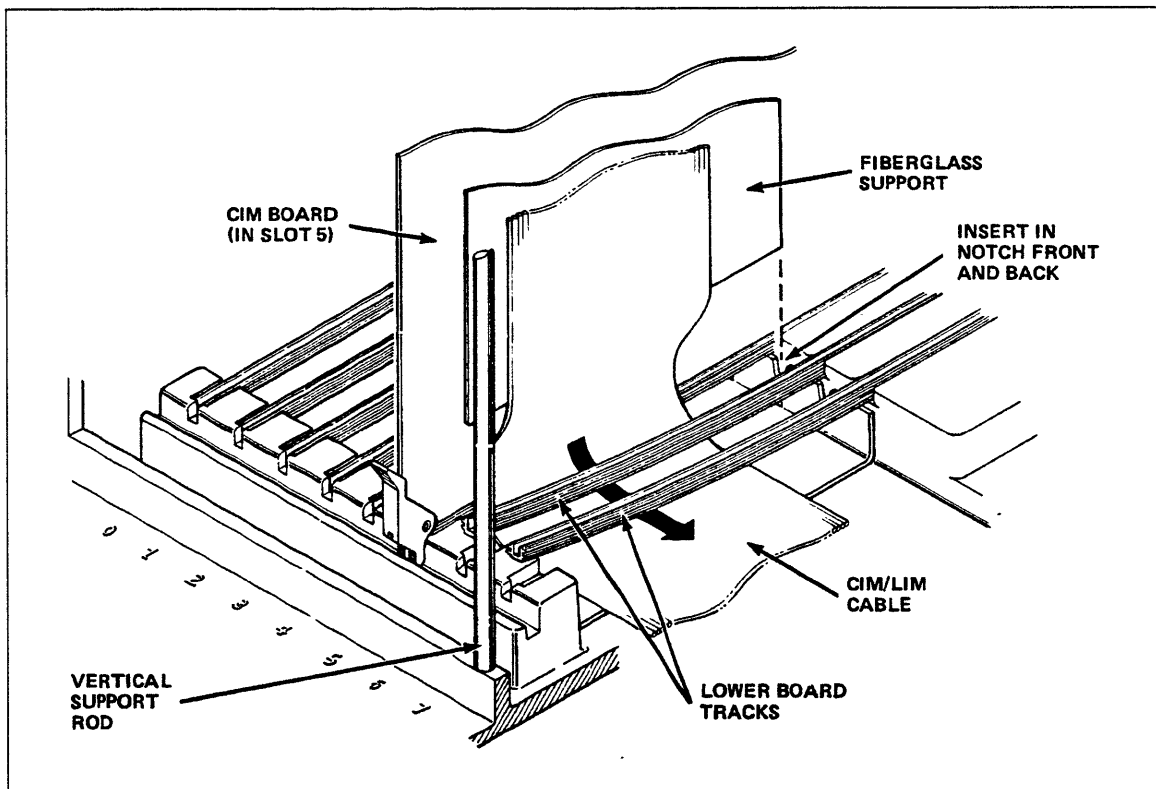

Figure 3-41. CIM/LIM Cable Routing
2. Lift up lower board tracks to the right of the CIM and slide cable under tracks (figure 3-41). For example, if CIM is installed in slot 5, route cable under tracks 6 and 7.
3. Insert bottom edge of fiberglass support into the notches to the right of the CIM's lower board track (figure 3-41).